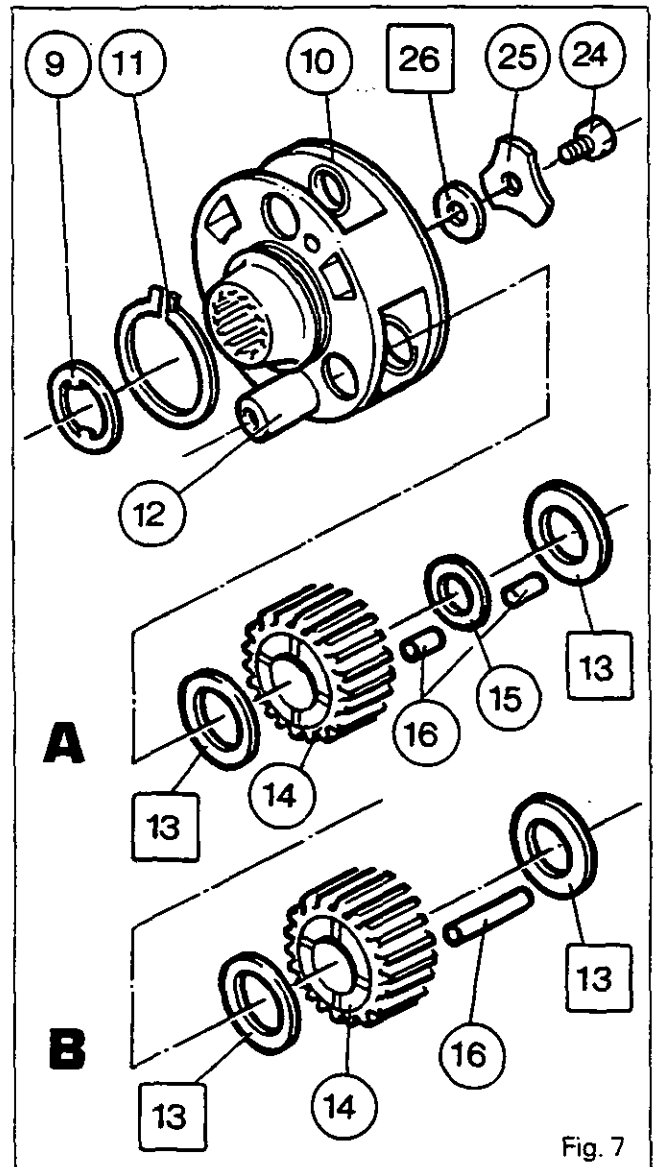
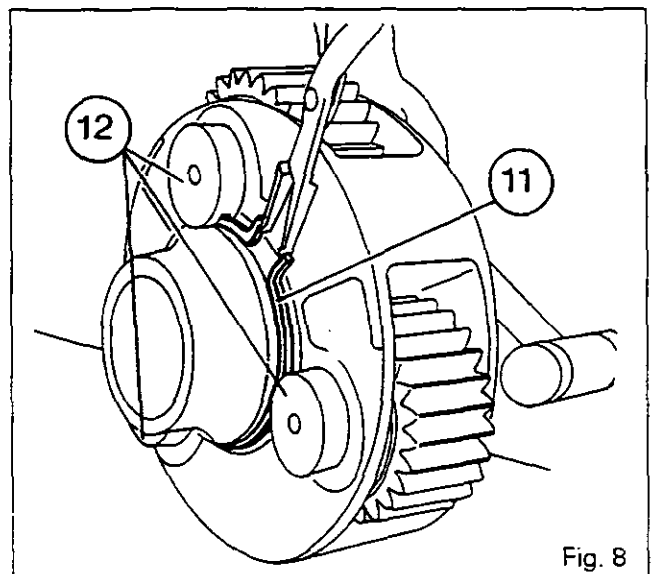

Fig. 7
Fig. 8
2. Remove the bolt (24) (Fig. 7).
3. Remove the retaining washer (25) and the shim(s) [26] (Fig.7).
4. Remove the planetary carrier assembly (10).
5. Open out the circlip (11) (Fig.8).
6. Using a copper tipped mallet, tap lightly on the three pins (12) (Fig.8).
7. Remove the three pins (12) and the circlip (11).
8. Remove the three planetary gears (14), the needle rollers (16), the spacers (15) (heavy duty planetary gear A) and the thrust washers [13].
9. Clean the planetary carrier (10), the pins (12) and the planetary gears (14). Check the condition of the parts.
10. Coat the needle rollers (16) with 'Amber Technical' or an equivalent grease. Into each planetary gear (14) insert :
- Heavy duty planetary carrier (A) : two rows of needle rollers separated by a spacer (15) (Fig.7).
- Normal duty planetary carrier (B) : one row of needle rollers (Fig.7).
- Note: Each heavy duty planetary gear (A) has 42 needle rollers.**
16. Push in the three pins and fit the circlip (11).
17. Open out the circlip (11) (Fig.8).